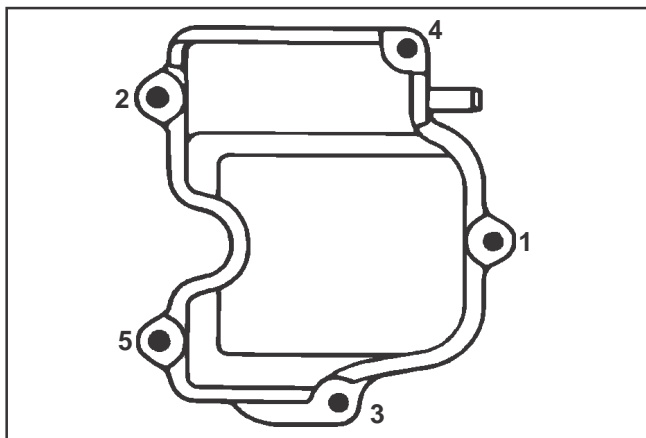

**Figure 11-44. Installing Valve Cover. (Die Cast/ Aluminum Cover Shown).**
3. Install the valve cover, any attached mounting brackets (muffler, fuel tank, and/or lift\*) along with any loose spacers (stamped steel cover) as originally attached onto the cylinder head. Secure with the five hex flange screws. See Figure 11-44.